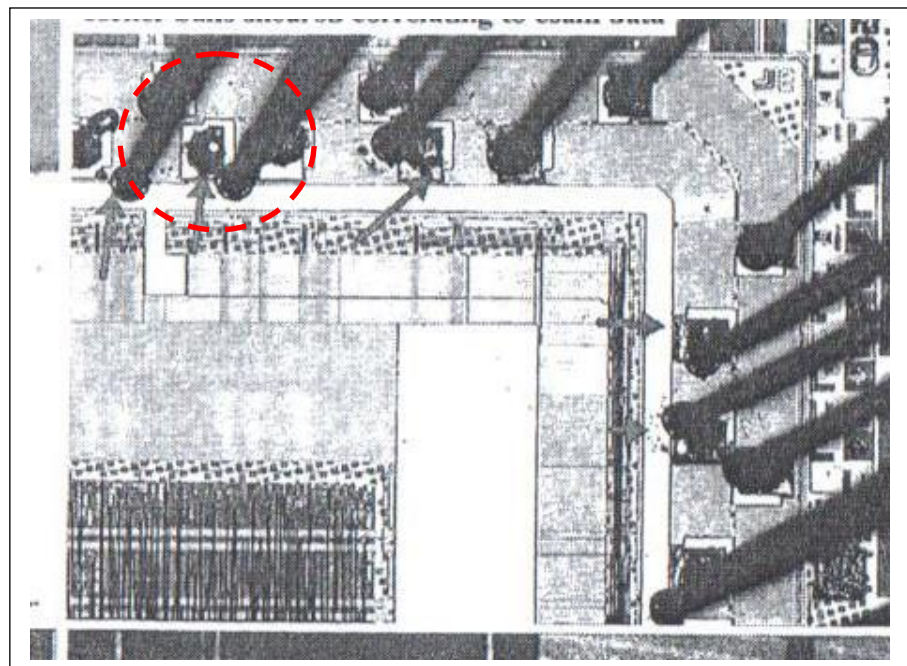

Figure 6
- (ii) Briefly explain the reasons you choose the techniques to identify the problem in Figure 6. (6 marks)